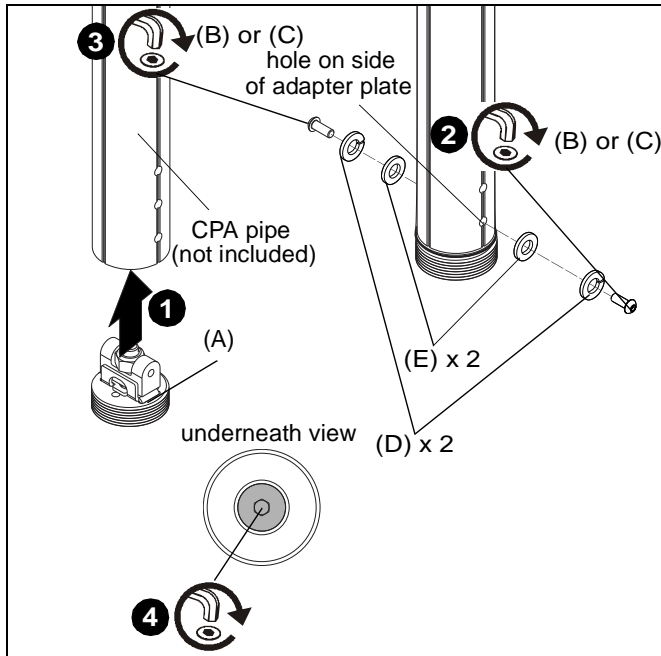

Figure 1
1. Making sure holes are aligned on CPA265 (A) and CPA column (not included), lift CPA265 (A) into bottom opening of CPA column. (See Figure 1)
2. Install either one M6x16 button head screw (B) or security screw (C) through M6 lock washer (D) and M6 flat washer (E) into hole on side of CPA pipe where the adapter plate on CPA265 is located. (See Figure 1)
3. On the opposite side of CPA pipe, use the other M6x16 button head screw (B) or security screw (C), an M6 lock washer (D) and an M6 flat washer (E) to secure CPA265 to CPA column. (See Figure 1)
4. Use "L"-shaped M6 hex key (F) to tighten bottom bolt. (See Figure 1)